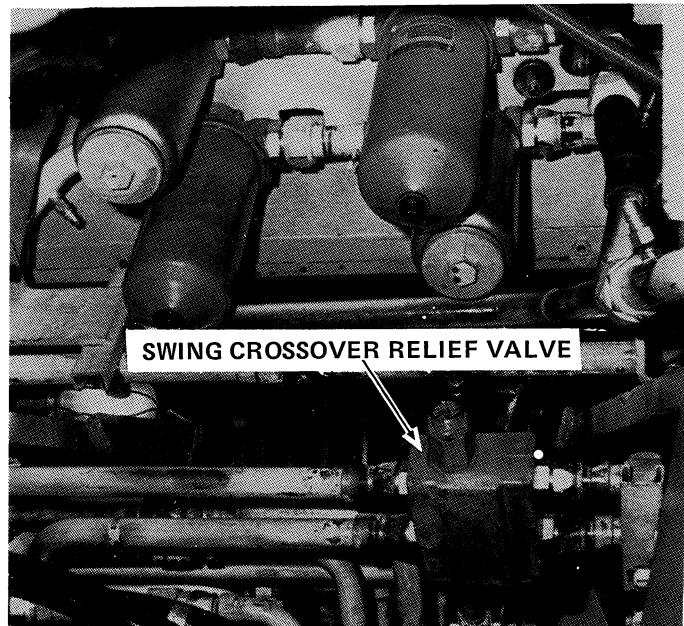

Figure 13. Swing Inline Relief Valve
1. Set engine at high idle, be sure house brake is set, and loosen the jam nut holding the adjusting screw to be adjusted. See Figure 13.